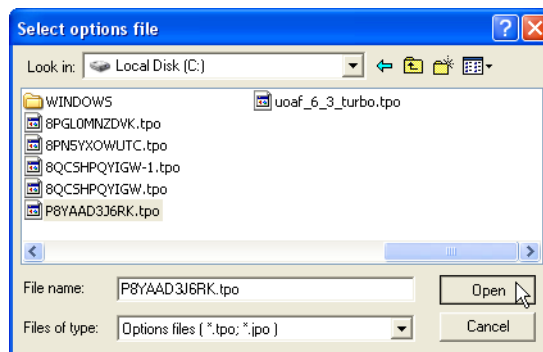

Figure 5-16. Load OAF
3. Navigate to the location of the new Option Authorization File. OAFs have .jpo or .tpo extensions and are unique to each receiver (Figure 5-16).
4. Select the appropriate file and click **Open** (Figure 5-16). The new receiver option loads onto the receiver and the Option Manager table updates.